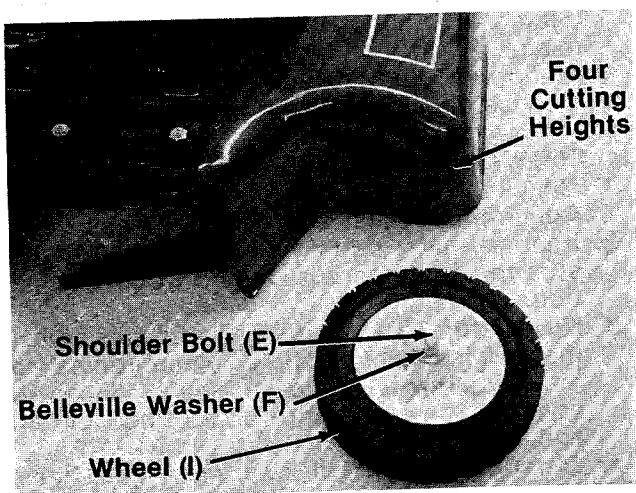

FIGURE 3.
3. Your mower has four height settings. Use the same hole for all four wheels when assembling. See figure 3.
4. Place shoulder bolt (E) through wheel (I). See figure 3.
- ← 5. Place crown side of belleville washer (F) towards the wheel (away from deck). See figure 3.
Adjustment is made by removing and moving axle bolts to desired position. Cutting heights will be raised as axle bolts are moved to a lower hole and lowered as axle bolts are moved to a higher hole in the deck. All axle bolts must be mounted in the same relative position to the deck. See figure 3.